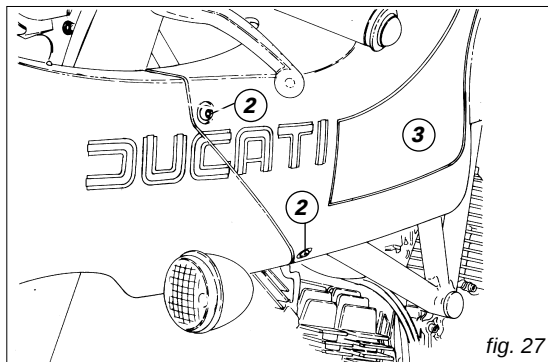

fig. 27
Unscrew the screws (2, fig. 27) (on both sides of the body) (3).